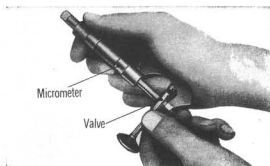

Fig. 22
4. Measuring the valve dimension. The valve stem diameter is measured with a micrometer. (Fig. 22).